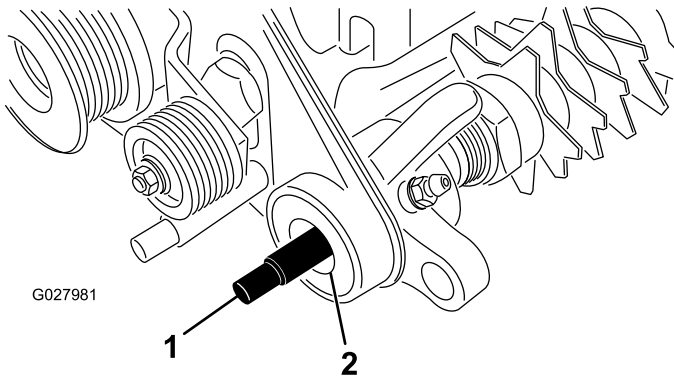

Figure 9
1. Apply a light coating of grease to the ends of the grooming shaft and to the seal lips (Figure 9) in the drive and support plates. Ensure that all bearings, bushings, and seals are properly installed.